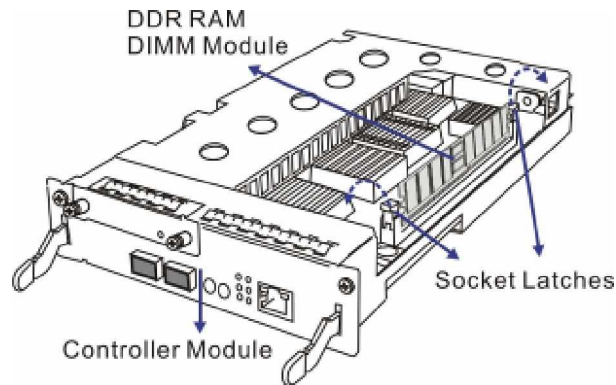

Figure 5-7: Removing the DDR RAM DIMM Module
Step 2. Remove the previously installed DDR RAM DIMM module. The memory module is located on the controller board. To remove the previously installed DDR RAM DIMM module from the controller board, press both DDR RAM DIMM socket latches outward; the DDR RAM DIMM module will be ejected by the mechanism. (See **Figure 5-7**)